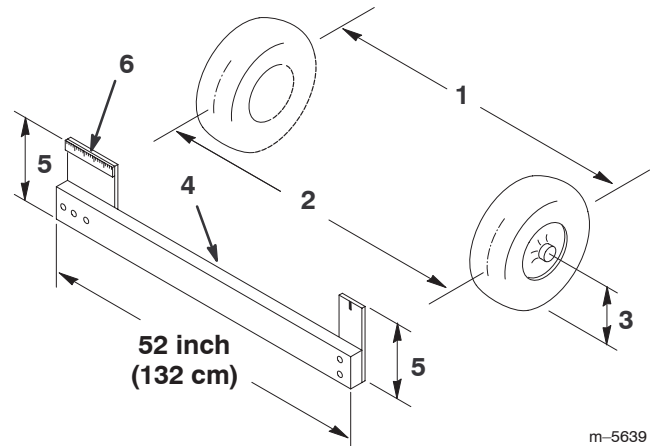

Figure 27
2. Measure the distance between both of the front tires at the axle height at both the front and rear of the front tires (Fig. 27). A fixture or alignment gauge is needed for the rear measurement of the front tires at axle
height. Use the same fixture or alignment gauge to accurately measure the front of the front tires at axle height (Fig. 27).